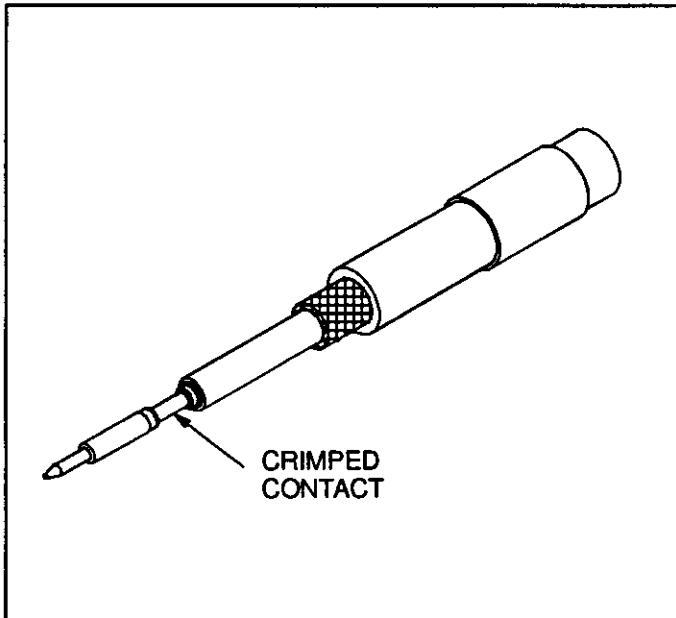

Fig. 3
2. Insert center conductor into contact; then crimp contact using recommended crimping tool(s) referenced in AMP Catalog 82074. See Figure 3.